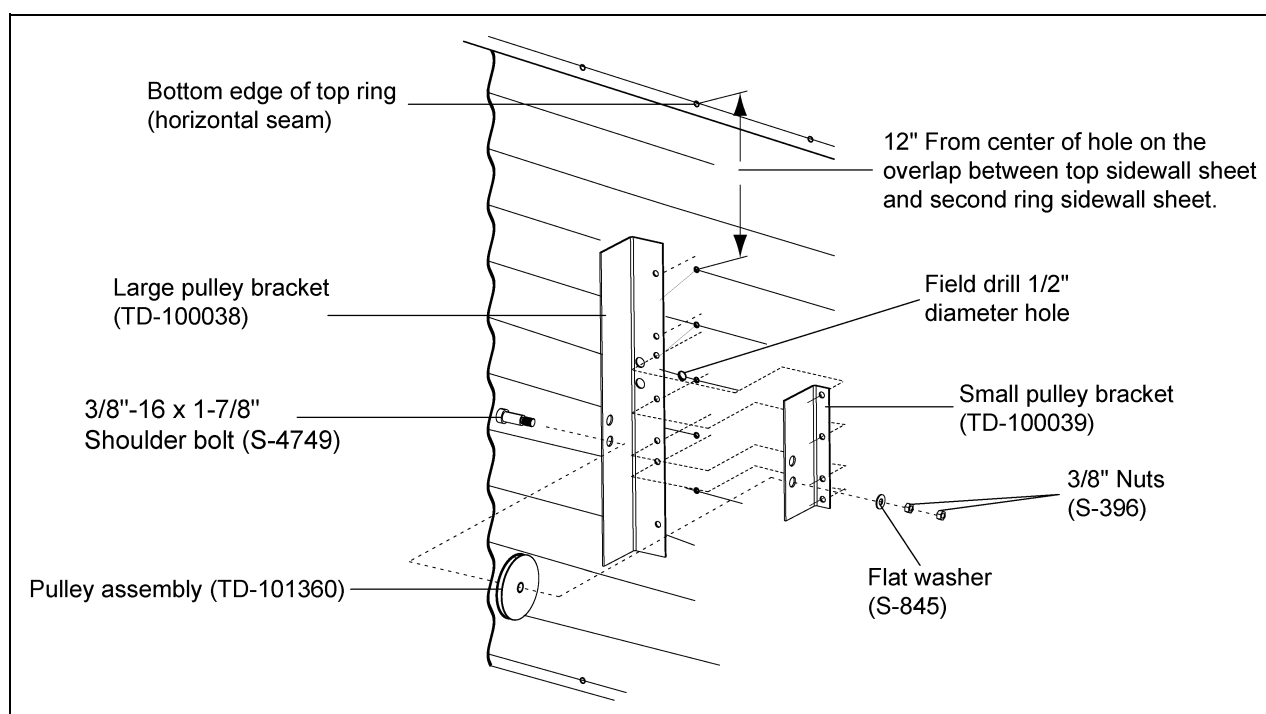

Figure 4B
Field drill five (5) 3/8" diameter holes as shown in Figure 4B. Attach the pulley assembly with 5/16" x 3/4" bolts with the neoprene on the inside of the bin. (See Figure 4B.)